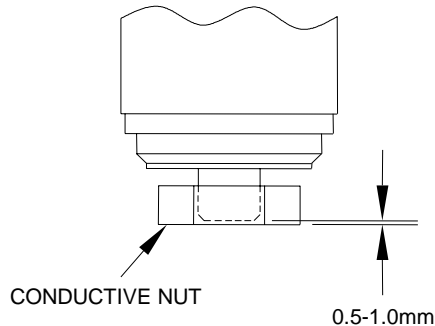

Fig. 10
1) Remove the conductive nut from the vacuum interrupter being replaced and attach it to the new vacuum interrupter as shown in Fig. 10.